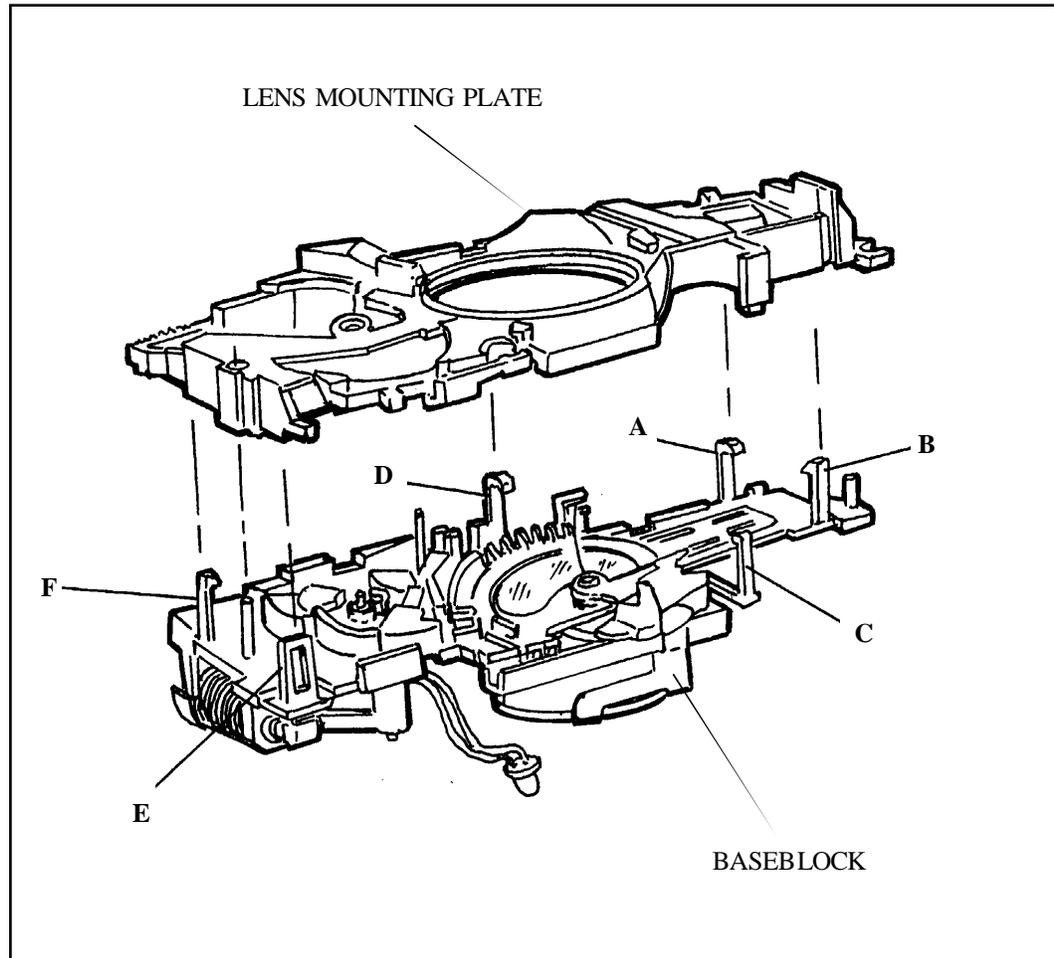

Figure 3-38. Releasing Baseblock Locking Fingers Holding Lens Mounting Plate
- d. Remove the Lens Mounting Plate from the Baseblock by releasing locking fingers **A - E** in order, using a greenstick (Figure 3-38). A molded locating pin on the left end of the Baseblock makes it necessary to keep the Lens Mounting Plate level (kept in the same plane as the Baseblock) and lifted straight off.